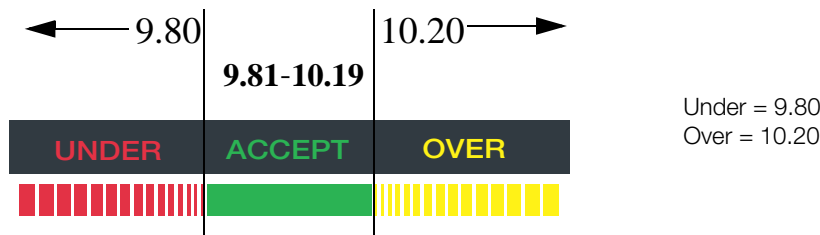

Figure 5-2. Example of Accept band determined by under/over settings in Range mode.
7. The *Accept* band is set as the gap between the *over* and *under* settings. See Figure 5-2 for an example.